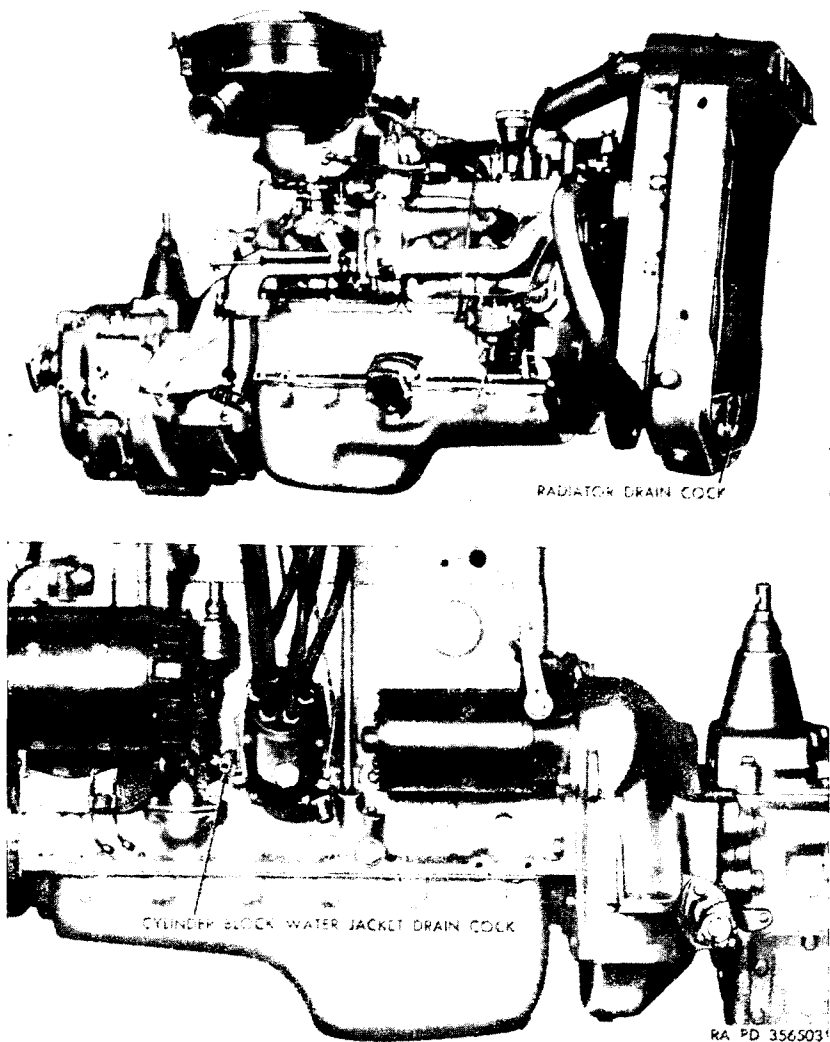
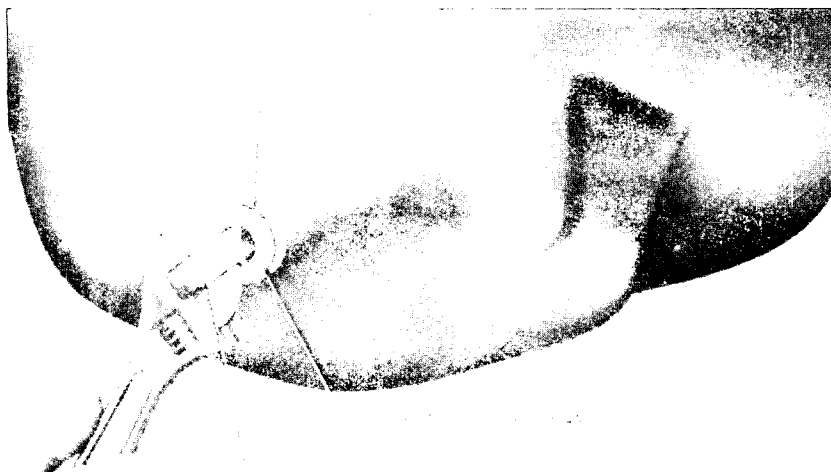

Figure 14. Cooling system drain cocks.
Figure 15. Removing oil pan drain plug.
c. *Draining.* When the desired amount of cleaning has been accomplished, the power plant is then ready for disassembly. The cooling system and oil pan should be drained. The cooling system is drained by opening the radiator drain cock (fig. 14) located on the lower section of the radiator. The cylinder block is drained by opening the cylinder block water jacket drain cock (fig. 14) located on the left side of engine between the distributor and oil filler pipe. The oil pan is drained by removing the drain plug in the bottom of pan. A $\frac{1}{2}$ -inch female plug is provided so that any $\frac{1}{2}$ -inch square plug wrench (fig. 15) can be used for removal.